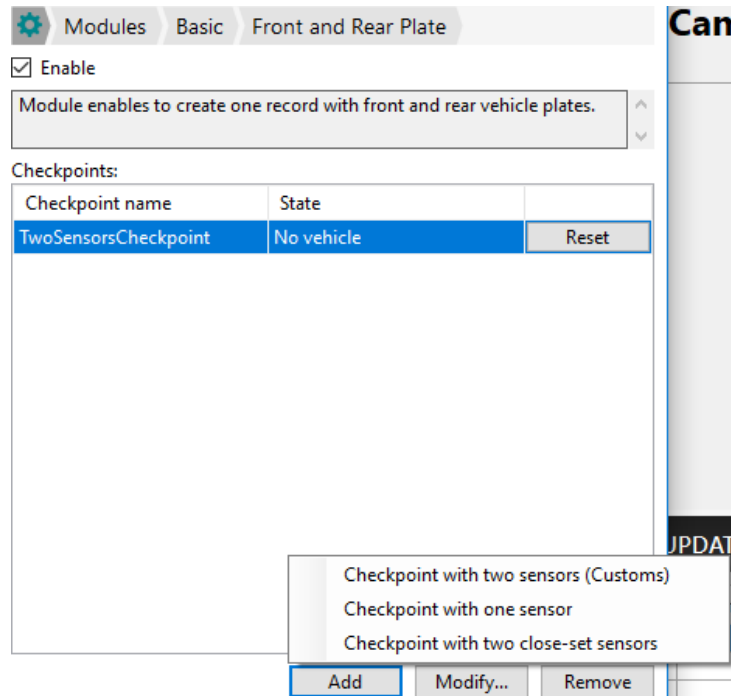

Figure 6.5.25.2
In the Checkpoint Settings (Figure 6.5.25.3) the following is necessary to be indicated:
- Name – a “Checkpoint” name is set by default in case of two sensors, or “OneSensorCheckpoint” is set in case of one sensor. This name will be indicated in the “Checkpoint name” field of the log (Figure 6.5.25.17). For ease of use it is recommended to indicate the checkpoint name in pursuant to its location (street name, checkpoint name etc.).